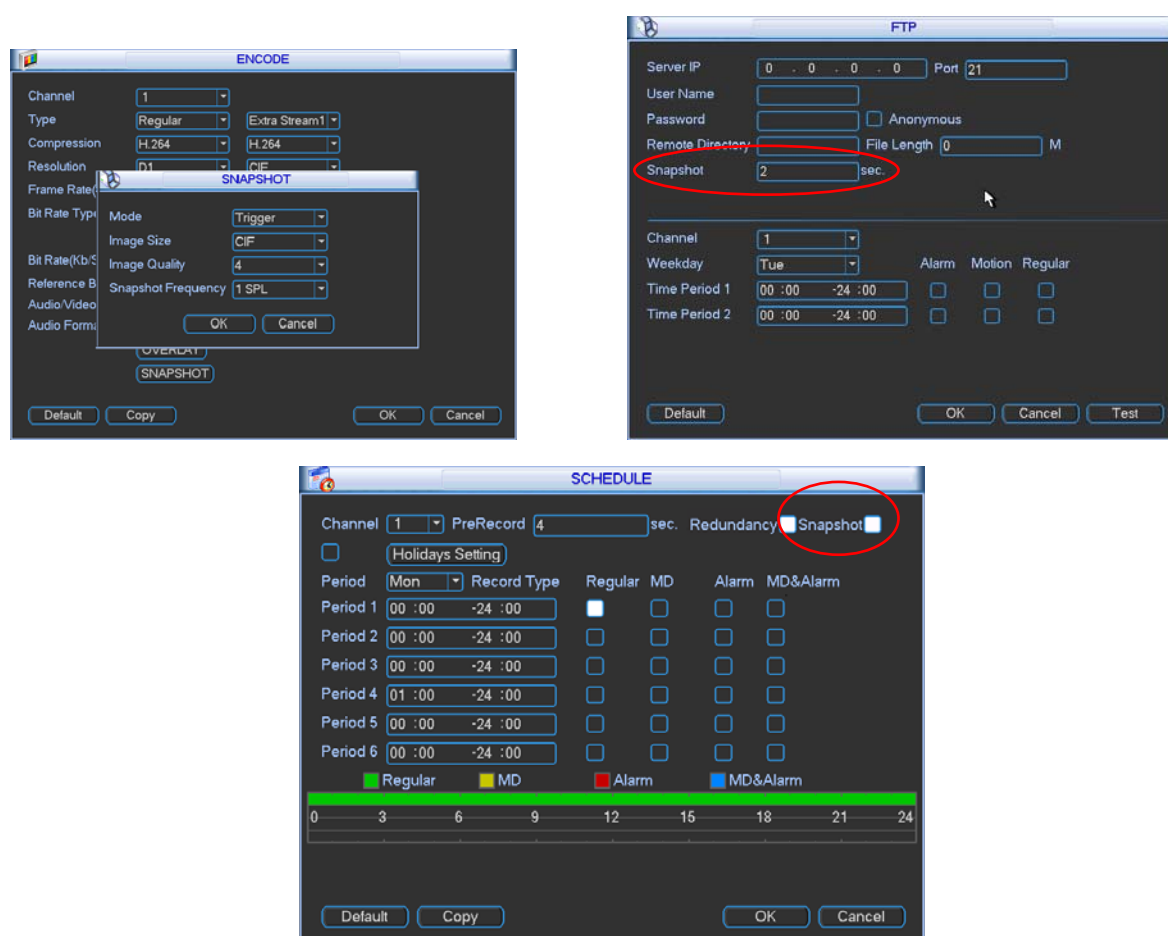

Figure 4-22
In Encode interface, click snapshot button to input snapshot mode, size, quality and frequency. See the interface on the left of Figure 4-22.
In FTP (Main Menu->Network->Network Setting) interface, please input upload interval. See the interface in the middle of Figure 4-22.
In Schedule interface, please enable snapshot function. See interface on the right of Figure 4-22.
Please refer to the following figure for detailed information. See Figure 4-22.
- In FTP interface please input upload interval. See the interface in the middle of Figure 4-22.